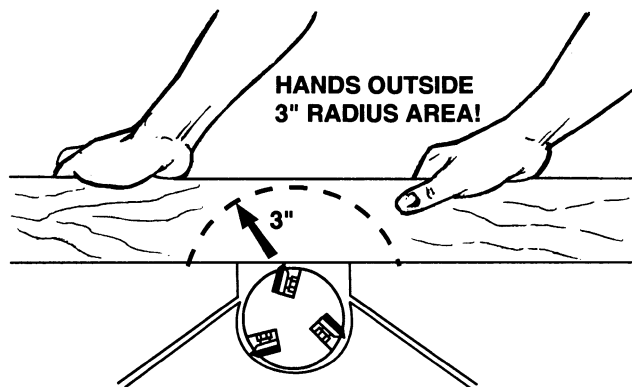

FIGURE 1
**Three inch rule.** When working a piece of wood on the jointer, follow the 3 inch radius rule. The hands must never be closer than 3 inches to the cutterhead. See Figure 1.